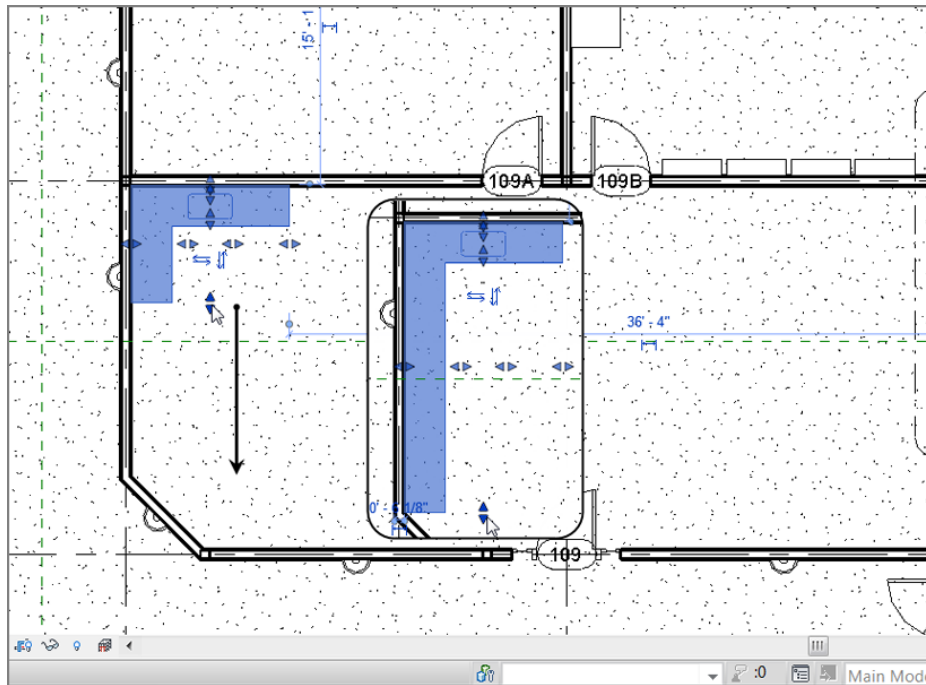

FIGURE 9.54: Lengthening the counter leg to meet the corner of the wall
9. Select the stretch arrows, and stretch the leg of the counter to the end of the wall, as shown in Figure 9.54.